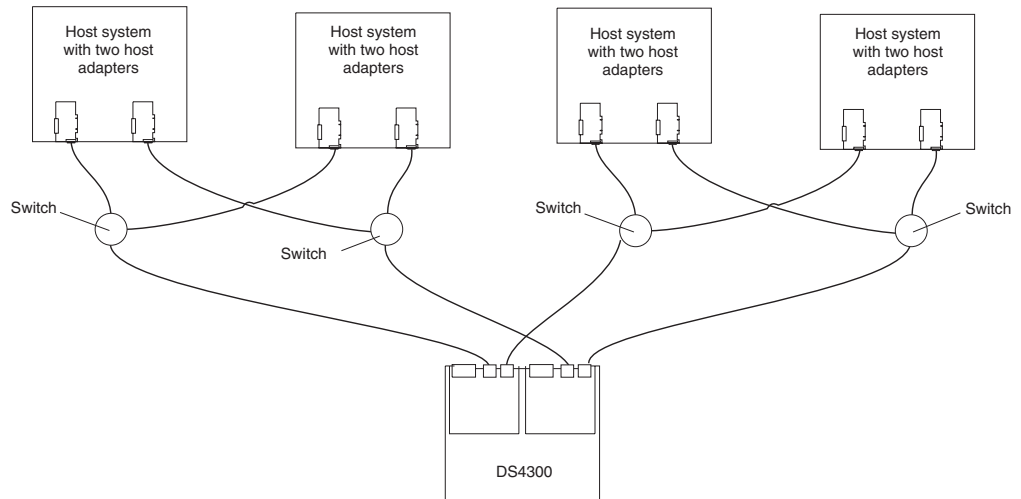

Figure 24. Example of a two-cluster configuration (Model 60U/60X)
- Two clusters (Figure 24 on page 29)